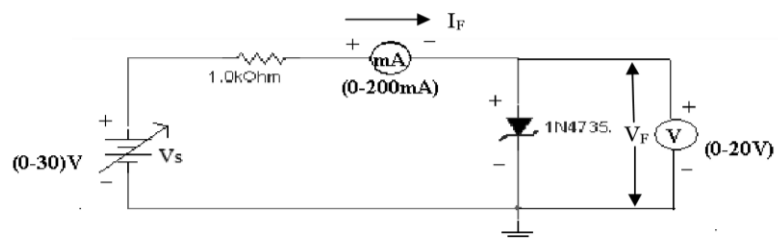

Figure 2: Zener diode in forward bias
1. Connect the circuit as shown in figure 2.